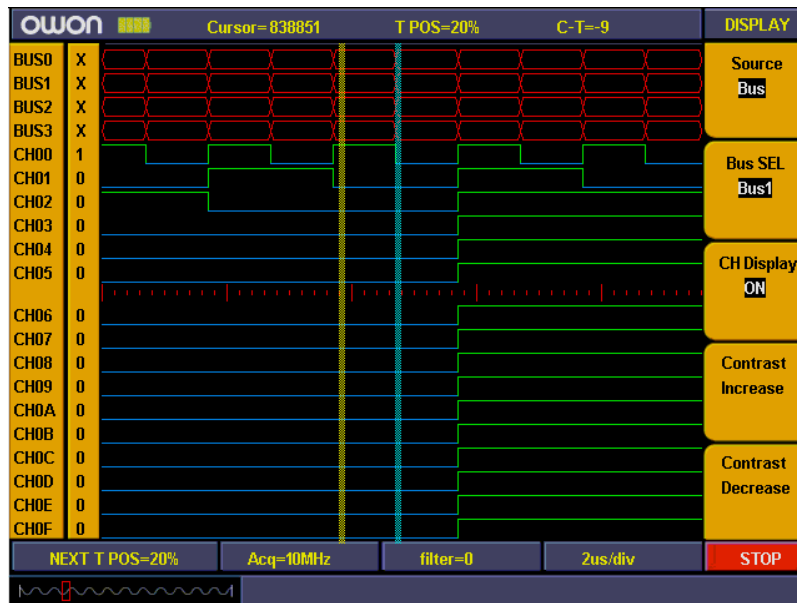

Fig.4-14
- 7、 Press "F3" and set signal sources as "OFF". Repeat operation of steps 6.7 and set BUS1、BUS2、BUS3 all as "OFF". Ref to Fig.4-14.